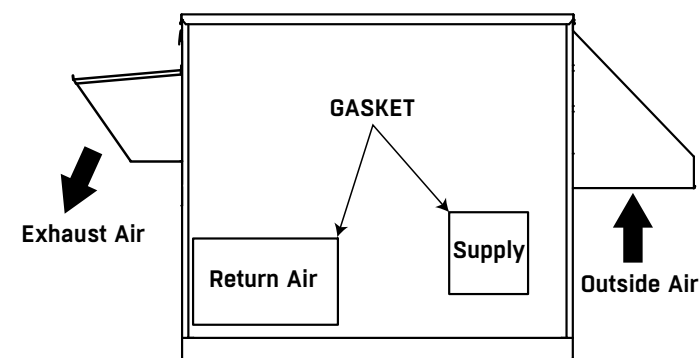

FIGURE 6.
1. Place supplied gasket around the supply air and the return air openings of the FV unit. See **FIGURE 6**.